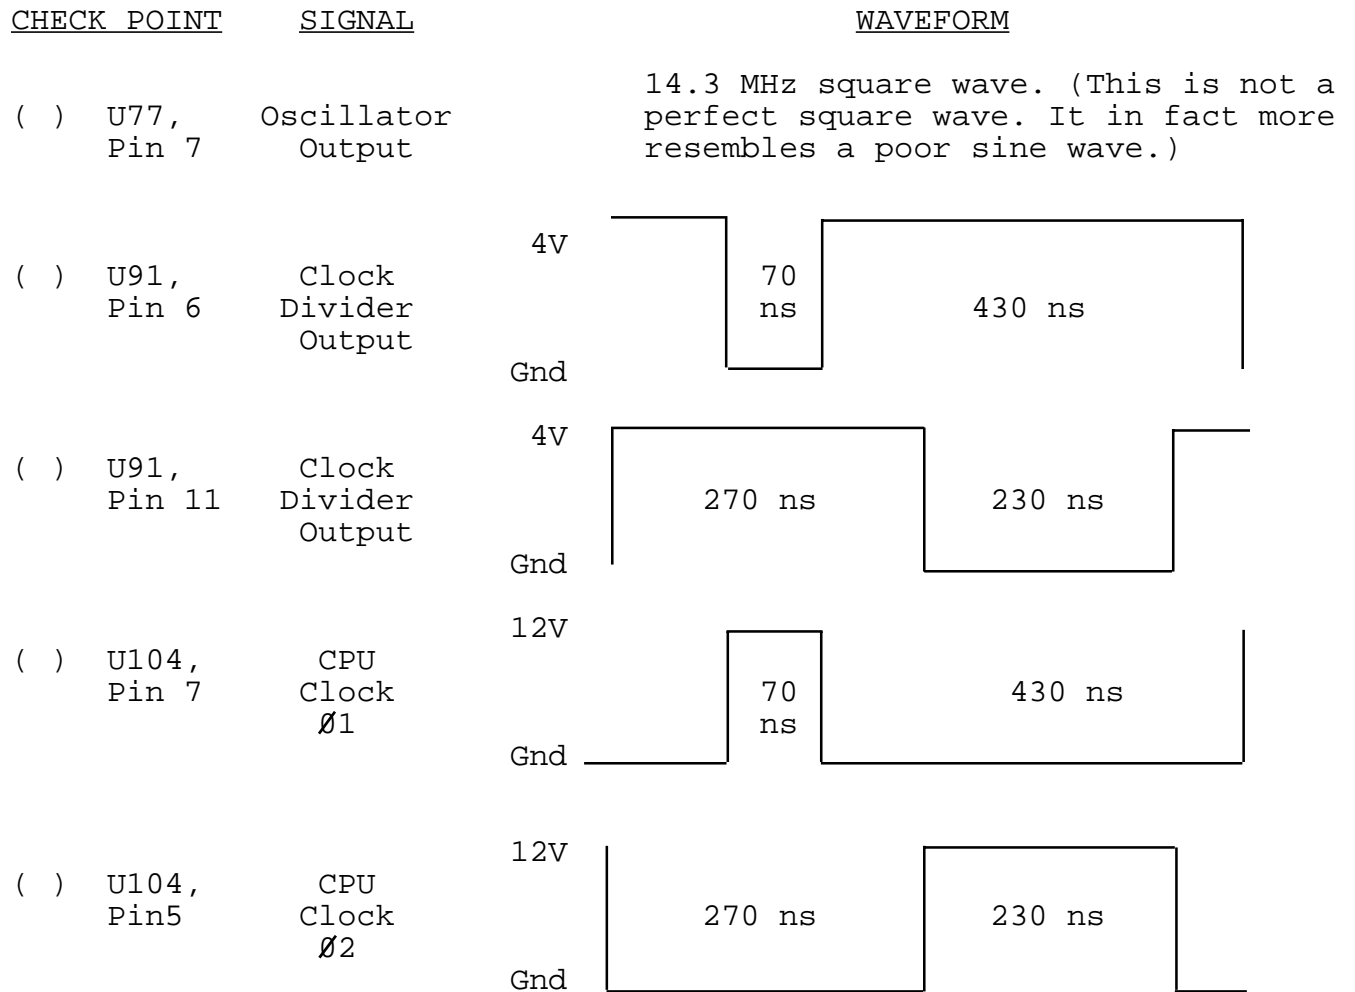

Figure 3-2. Clock circuit waveforms.
- () Using an oscilloscope, check for the waveforms given in Figure 3-2 on Page 111-15 at the indicated observation points and in the order given. The waveforms shown in Figure 3-2 approximate actual waveforms. If any waveforms are incorrect, determine and correct the cause before proceeding with assembly.